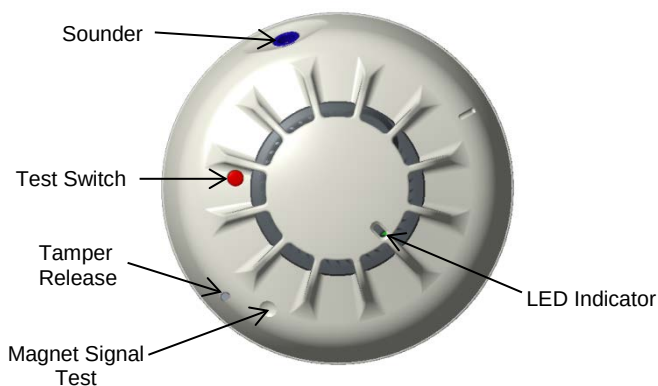

Figure 4 LEDS, Sounder, Test Switch and Signal Test Locations
1. Locate the test switch opening on the detector housing. (Figure 4)
1. Locate the detector test switch opening located on the detector cover (Figure 4).
4. While the LED is blinking spray a very small amount of canned CO gas tester such as **Solo brand C6 canned CO** into the detector chamber area located on the top center area of the detector (figure 4).
This switch has multiple functions and is located in an opening on the detector housing as shown in figure 4. To activate the switch insert a small screwdriver or similar tool (2mm max.) into the test switch opening; push and hold for the time associated with the desired test. Pressing this switch will not cause an alarm at the control panel. The functionality of the button will be dependent upon the detector configuration. For example the button will not perform the CO fast test if the detector is configured as a smoke alarm.